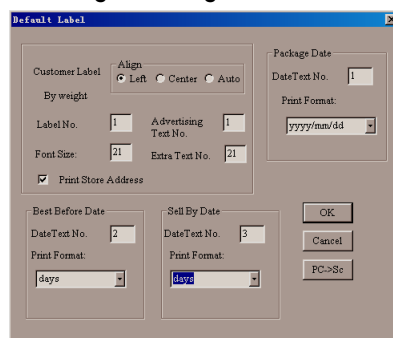

Fig. 6-23
- Here will show by weight label dialog box as fig. 6-23.